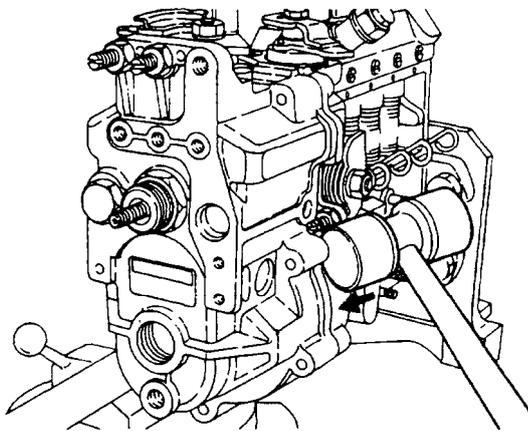

Figure 85 Removing the Governor Cover
- h.** Remove the seven bolts securing the cover to the governor housing and remove the cover by tapping the cover lightly with a soft-faced hammer (Figure 85). Remove and discard the gasket.